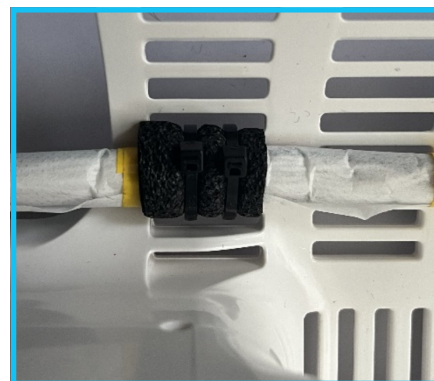

Figure 9.3
3. Secure the water blocking tape covered cable to the basket using velcro, do not over tighten **[figure 9.3]**.